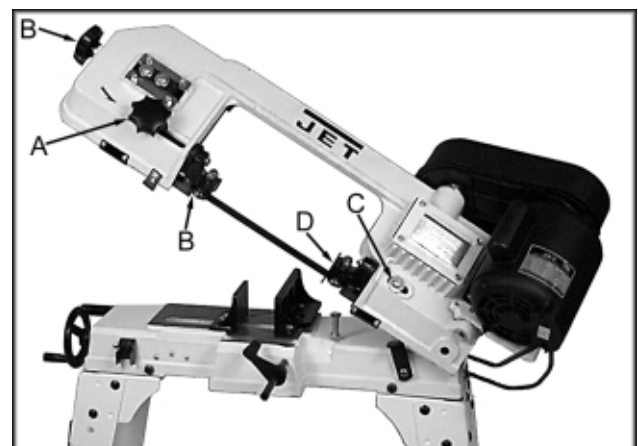

Fig. 12
4. Depress blade. Finger pressure should cause approximately .004" deflection. Turn blade tension knob (B, Fig. 12) until the proper tension is achieved. Re-position guides for cutting material.
2. Loosen knob (A, Fig. 12) and slide blade guide assembly (B, Fig. 12), as close as possible without interference to the material being cut. Tighten knob.
3. Loosen bolt (C, Fig.12) and slide blade guide assembly (D, Fig. 12), as close as possible without interference to the material being cut. Tighten bolt
3. If the blade is next to the wheel flange, loosen the blade guide assembly lock knob and hex head bolt (A & C, Fig. 12) and slide
5. Release tension on the blade by turning tensioning knob (B, Fig. 12), and remove the blade.